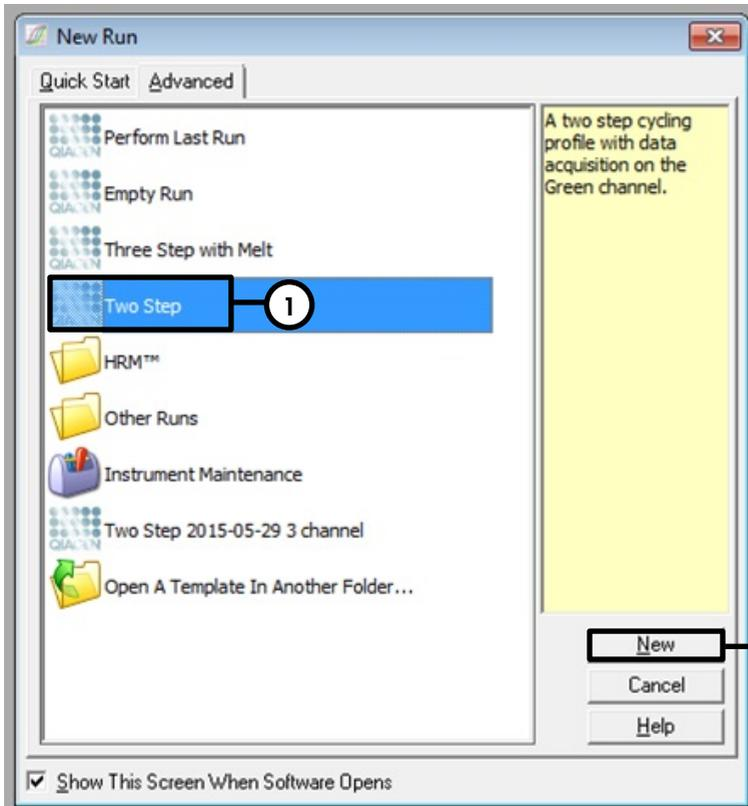

Figure 1. The New Run dialog box.
Setting the general assay parameters	Figures 1, 2, 3, 4
6. First, open the **New Run Wizard** dialog box with the **Advanced** version and select **Two Step** (Figure 1). Click **Next** to continue.